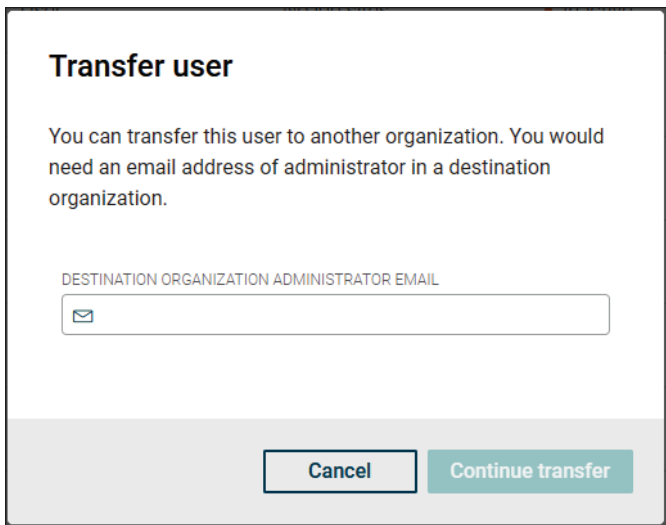

Figure 62. Transfer User - Destination Organization
5. The “Transfer user” window will appear, type in the Destination Organization Administrator e-mail. See **Figure 62**.